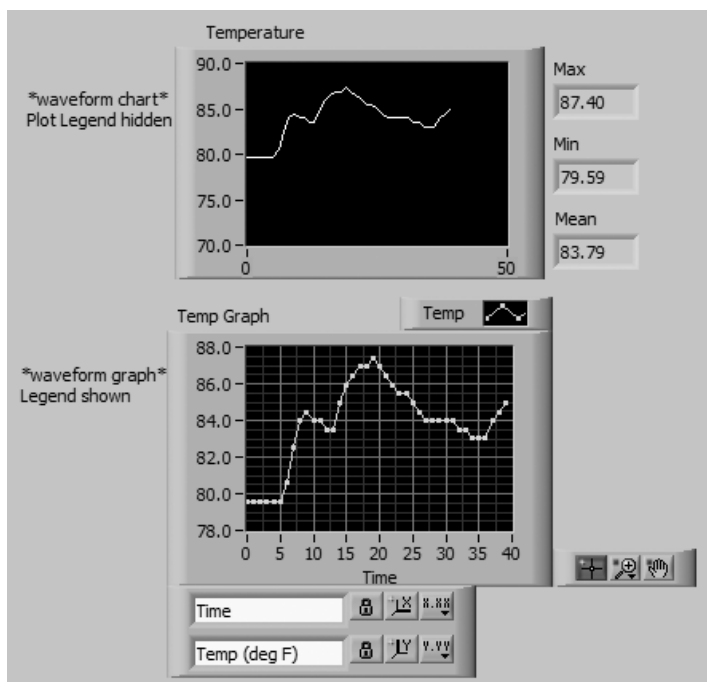

Figure 8.46
1. Open a new front panel and build the VI shown in Figure 8.46.